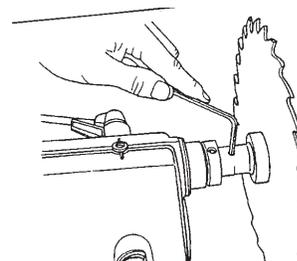

Figure B-86
63. Use the 5/32" Allen wrench to loosen the arbor set screw. Remove the saw blade. See Figure B-86.